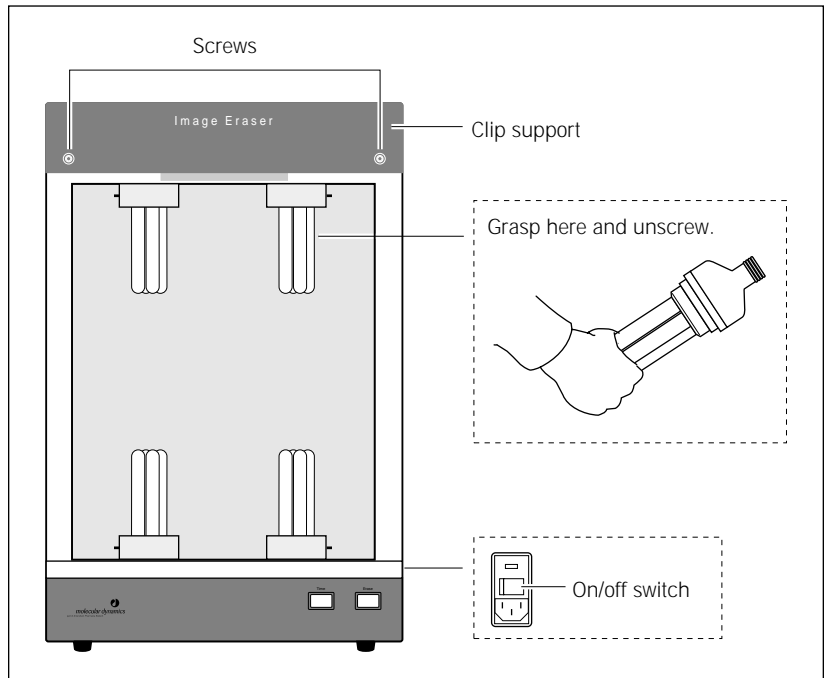

Figure 14-2. Removing a bulb from the Image Eraser.
4. Unscrew the bulb and fixture from the receptacle and replace the bulb and fixture with a new bulb and fixture (figure 14-2).